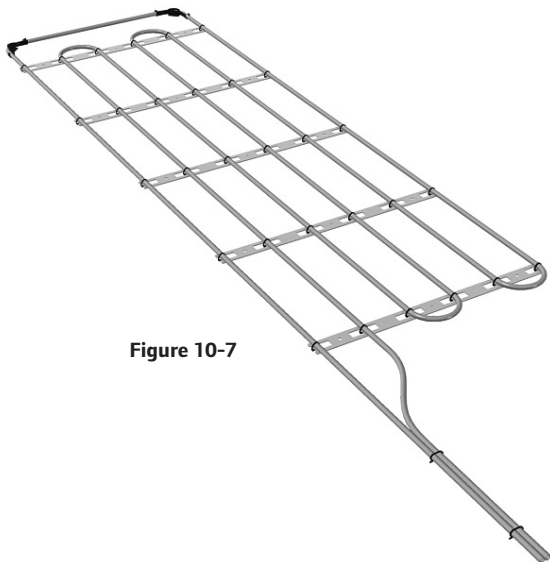

Figure 10-7
The reverse-return header in the mat uses $\frac{3}{4}$ " tubing and can connect to either $\frac{1}{2}$ " or $\frac{5}{8}$ " tubing using Uponor Engineered Plastic (EP) Reducing Tee fittings. Each mat is equipped with one supply-and-return line and SpaceGuard support strips that allow tubing in the mat to be accurately spaced and fastened. Mats are pre-pressurized at the factory. **Figure 10-7** shows a two-dimensional drawing of a reverse-return header system. The system uses one central wall manifold, which serves as an origination for the distribution flow system. There are four mats with the reverse-return header connected to the central wall manifold; each mat contains 10 single-pass loops.